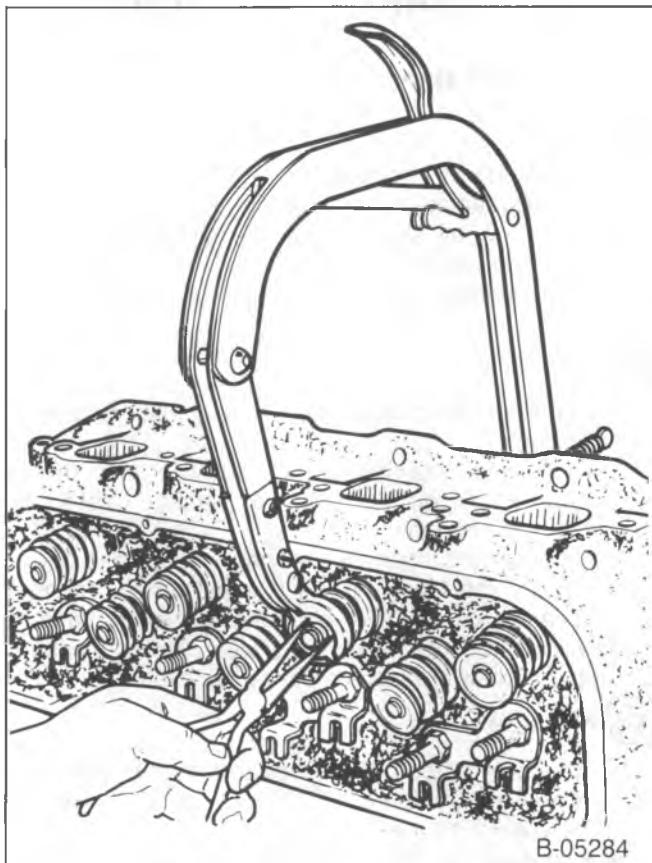

Figure 24—Compressing the Valve Springs
1. Valve keepers (22).
- Compress the springs with J 8062 (figure 24).
2. Caps (23), oil shedder (24), and springs.
3. O-ring seals (26) and seals (25) (if used).
- Compress the valve spring using J 8062 (figure 24). Compress the spring enough so the lower valve stem groove can be seen clearly.
- Push a new O-ring seal (26) onto the valve stem. The seal is to be installed on the stem's lower groove. Make sure the seal is flat and not twisted.